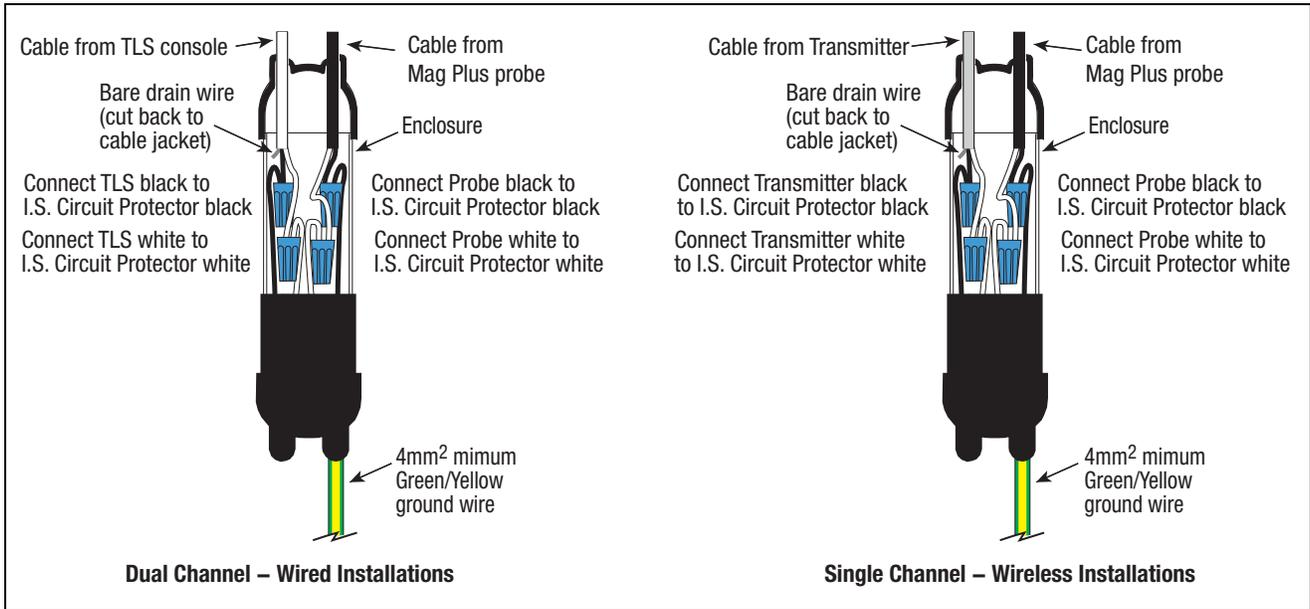

Figure 18. I.S. Circuit Protector Splice Connections
2. Connect incoming cable wires and to the I.S. circuit protector wires using wire nuts as shown in Figure 18. Cut off the TLS/Transmitter cable's bare shield wire at the cable jacket.